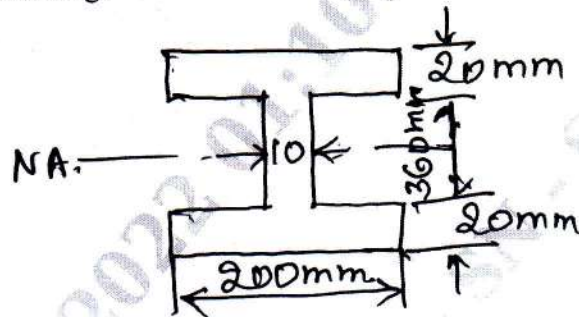

Fig Q8(b)
- b. A simply supported beam of I section carries a UDL 40kN/m run on entire span of beam length 10m. If I section has dimensions as shown in Fig Q8(b), determine the maximum stress produced due to bending.